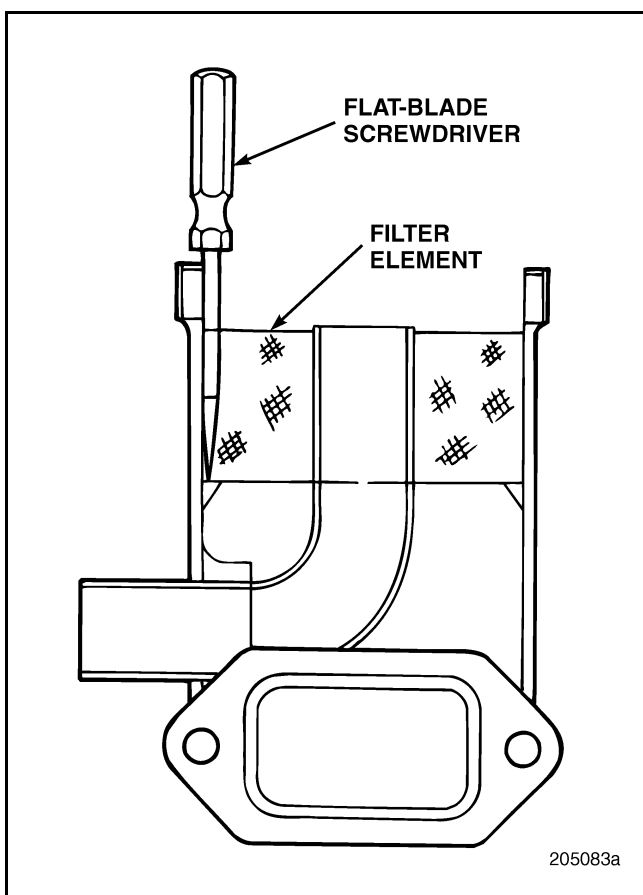

Figure 70 — Breather Filter Element Removal (Cast Aluminum Housing Shown)
2. Place a thin-blade screwdriver between the outside diameter of the element and the canister housing (Figure 70). Then, remove the element by rotating the screwdriver and element while exerting upward pressure.